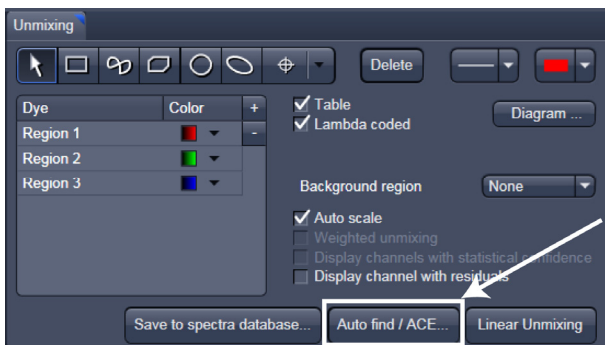

Fig. 276 Automatic Component Extraction function
- Click on the **Auto find / ACE...** button in the Unmixing View Option control tab (Fig. 276).
- When obtained spectra appear reasonable, unmix the data set by clicking the **Linear Unmixing** button (Fig. 276).